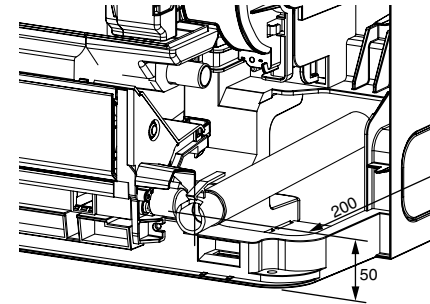

Fig. 7
- When routing the drain piping, make sure that the drain hose ① is routed as shown. (Fig. 7)